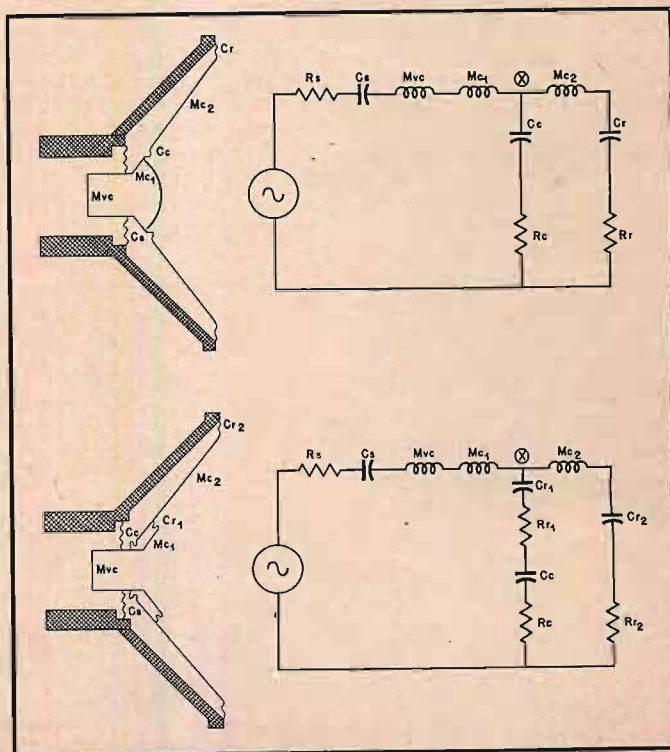

Fig. 9-5. (A), Mechanical system of a two-cone, single-voice-coil speaker and electrical analogy. (B), Variation of (A).
The principle of inserting cone corrugations for controlling break-up may be followed through in a special design which uses definite segregated vibration systems in the cone and/or voice coil. In Fig. 9-5, (A) illustrates a speaker of this design, in current commercial use, which has an aluminum dome-shaped diaphragm for high-frequency sound propagation and dispersion. At low frequencies the entire suspended mechanism vibrates as a unit, but at high frequencies the small cone and diaphragm are able to vibrate by themselves because of their compliance with the cone proper.
The reader will find that tracing the equivalent electrical circuit of this speaker system increases appreciation of the way it works. In (A) of Fig. 9-5, the magnetomotive force must always overcome the friction of the spider R_s , the stiffness of the spider, determined by C_s , the mass inertia of the voice coil M_{vc} , and the inertia of the first section of cone and aluminum dome M_{c1} . At this point, marked X on the diagram, there is a choice of path. At low frequencies C_c will have a high impedance (will remain mechanically stiff) and M_{c2} a low impedance, so that current will flow through M_{c2} rather than C_c . The current through M_{c2} will be the same as that through M_{c1} , which represents the fact that the two sections will have the same velocity and will move as one.